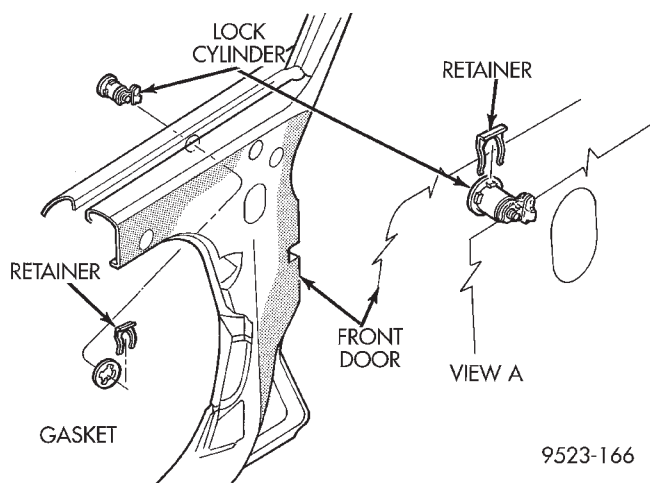

Fig. 23 Front Door Lock Cylinder
- (4) Remove retainer holding lock cylinder to outer door panel (Fig. 23).
- (5) Separate lock cylinder from vehicle.